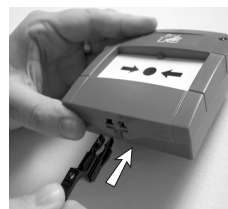

Figure 1
3. Remove the bottom housing by first pushing in the forked end of the key (with arrow side out) into the two slots (see Figure 1). The bottom housing should drop down by about 10mm and expose the yellow edge on the top of the white element (with the black spot). Remove the key, pull the bottom housing down and then lift it up to remove (see Figure 2).
- d) The Manual Call Point should be reset with the plastic key provided by pushing the forked end (arrow side up) into the slots (see Figure 1) and pulling the bottom housing down. Remove the plastic key. Now push the bottom housing firmly against the back and slide upwards. This resets the switch. The yellow strip on the white element should now be hidden.